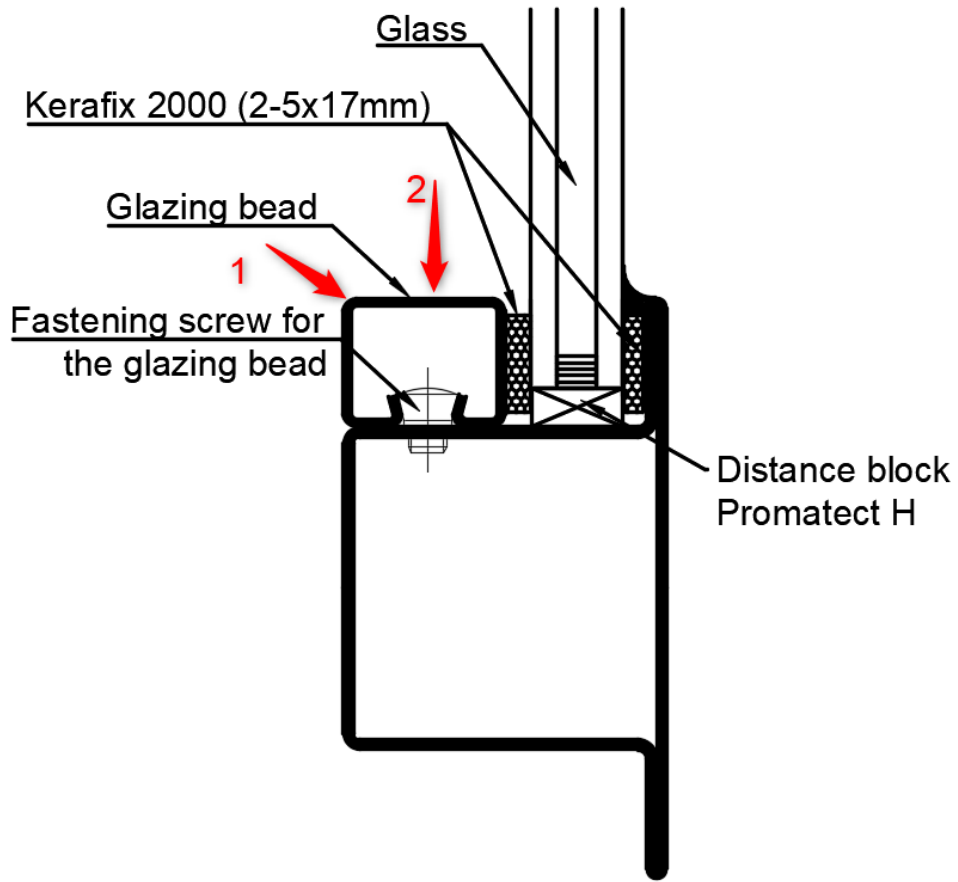

FIGURE 4
- During the installation of glasses (see Figure 4) make sure that the glasses are not broken and there are no cracks or other damages on them. Damaged glasses may be installed with the temporary purpose of closing an opening. In that case the product does not comply with the previously stated requirements and warranty conditions.